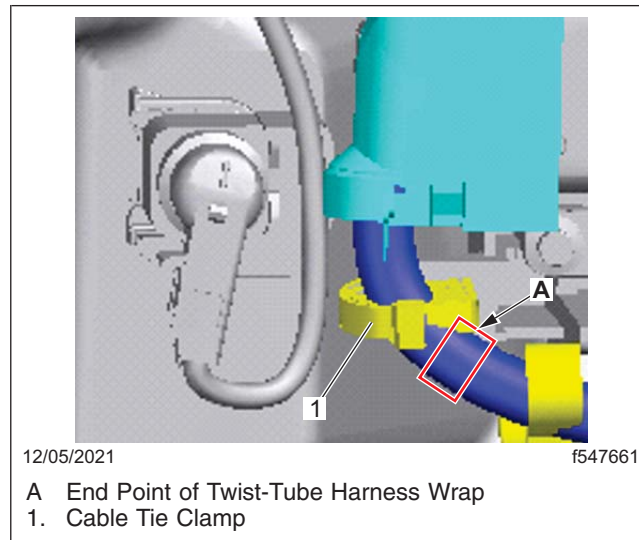

Fig. 4, Securing the Harness Clipping Point at the TCU Connector
- 5.2 Secure the harness clipping point next to the TCU connector using a cable tie clamp, as shown in **Fig. 4**.